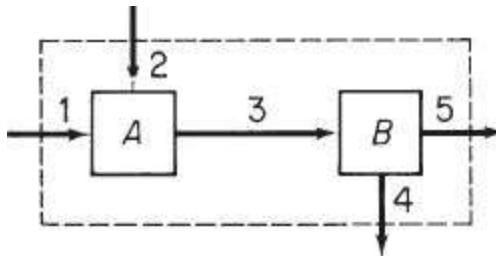

Figure P6.1.1
- *6.1.1.** For Figure P6.1.1, how many independent equations are obtained from the overall balance around the entire system plus the overall balances on units *A* and *B*? Assume that only one component exists in each stream.